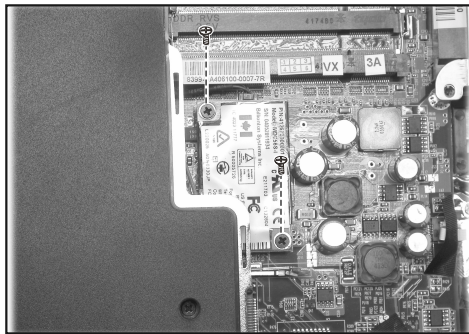

Figure 2-11 Remove the two screws
2. Remove the two screws. (Figure 2-11)